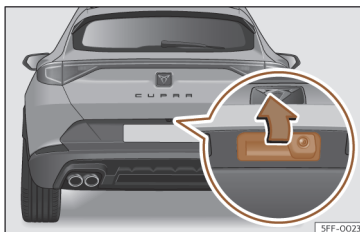

Fig. 79 Rear lid: opening from the outside.
- *Open*: place slight pressure on the handle. The rear lid opens automatically >>> Fig. 79.